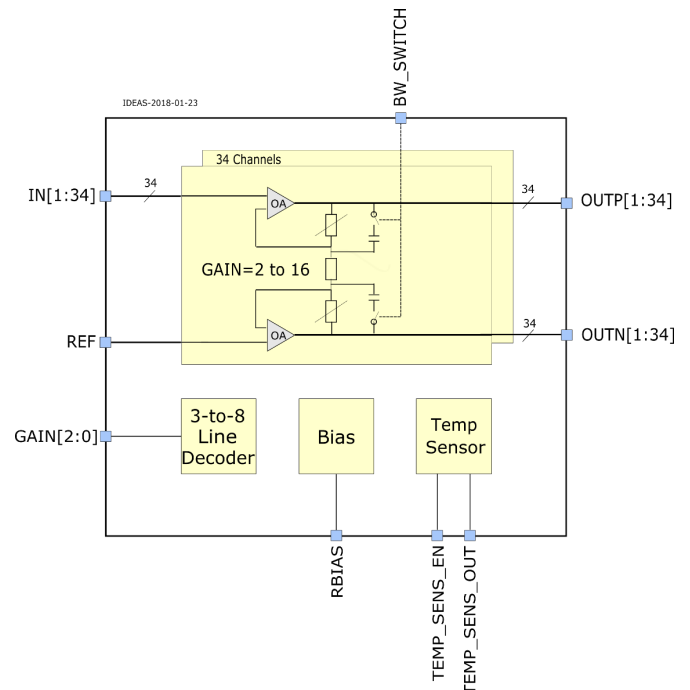

Figure 1: Block diagram of the IDE1060.
Figure 1 shows a block diagram of the sensor readout circuit IDE1060. The IC contains 34 identical preamplifier channels with input signals $IN[1:34]$ and REF and differential output signals $OUTP[1:34]$ and $OUTN[1:34]$. The channel gain is programmable in 8 steps from 2 to 16 (6dB to 24dB) using $GAIN[2:0]$. Each channel consists of two operational amplifiers (OA), a programmable resistive network and switchable capacitors that can be used to reduce the video